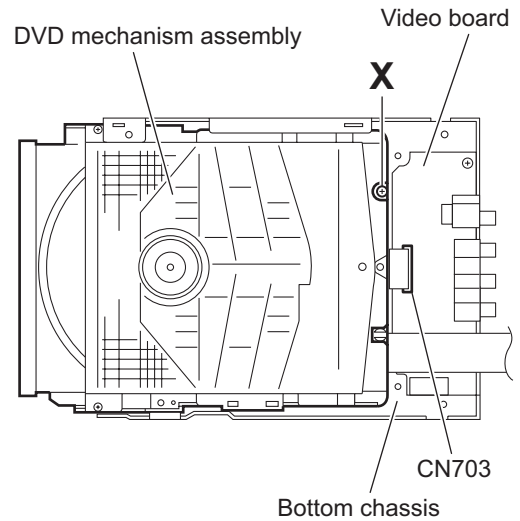

Fig.27
- Disconnect the card wire from the connector **CN703** on the video board. (See Fig.27.)
- Remove the screw **X** and take out the DVD mechanism assembly from the bottom chassis. (See Fig.27.)